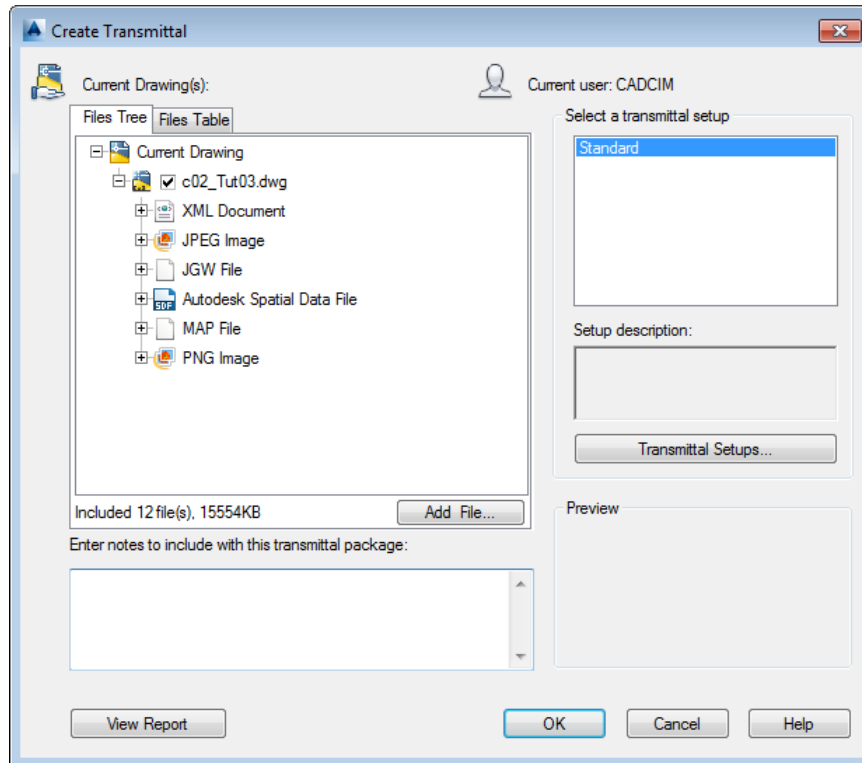

Figure 2-30 The *Create Transmittal* dialog box with files available for transmittal
2. Choose the **Yes** button in this message box; the **Create Transmittal** dialog box is displayed, as shown in Figure 2-30.